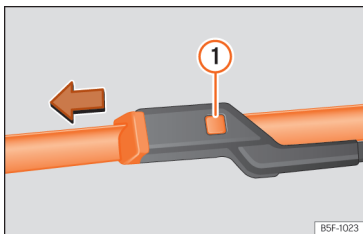

Fig. 208 Changing the windscreen wiper blades
- Press and hold release button >>> Fig. 208 ① and pull gently on the wiper blade in the direction of the arrow.